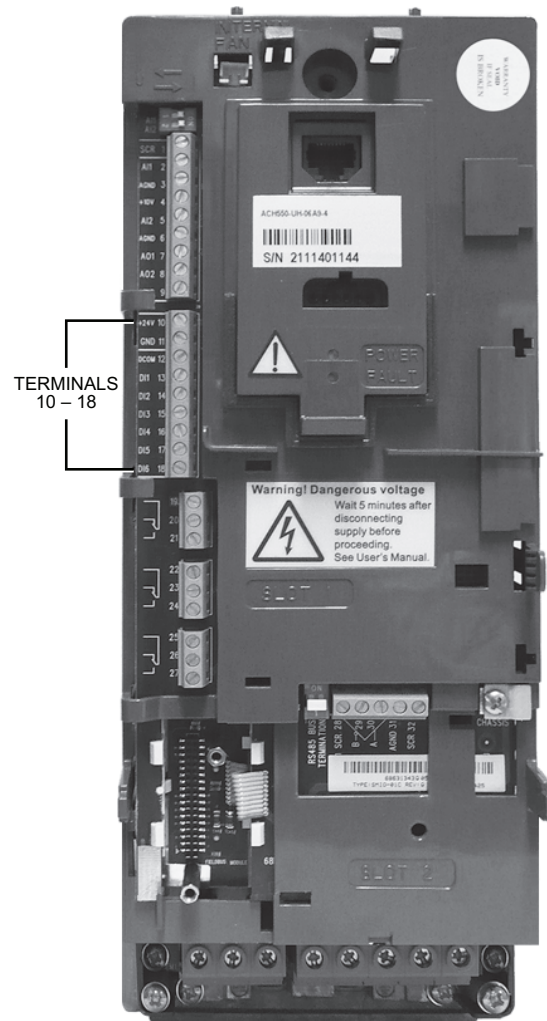

Fig. 73 — Terminal Block Location on ACH550 VFD
3. Disconnect the DI1 input at Terminal 13 (see Fig. 73 for location of DI1).